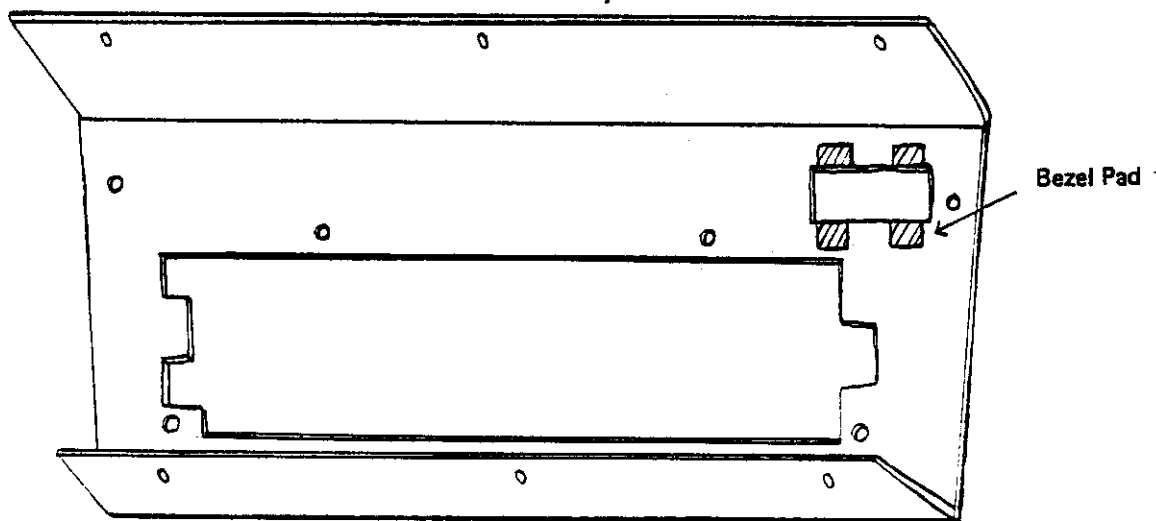

FIGURE 7: Front Panel Bezel Installation
- () 50. Place the four green bezel pads, sticky side down, at each corner of the rectangular window cut-out, as indicated in Figure 7.